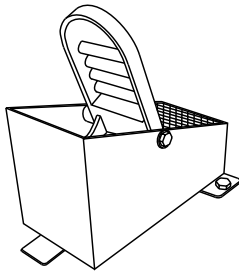

Figure 10. Blade Speed Control Foot Pedal
3. The right foot pedal (Figure 10) controls blade and engine speed. The position of the foot pedal determines the blade speed. Slow blade speed is obtained by slightly depressing the pedal. Maximum blade speed is obtained by fully depressing the pedal.